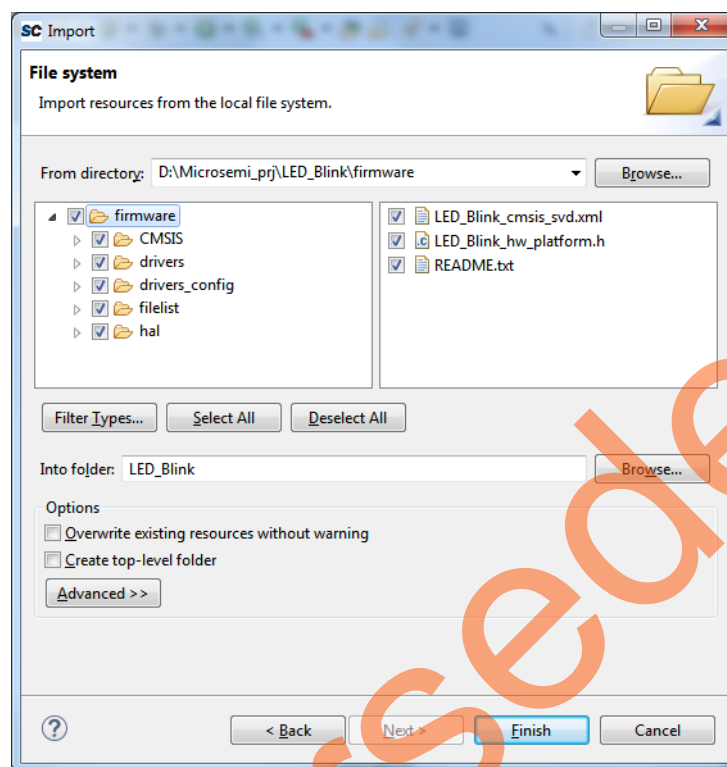

Figure 31 • Import - File System
11. Browse to **D:\Microsemi_prj\LED_Blink\firmware** and select **firmware** check box, as shown in Figure 31.